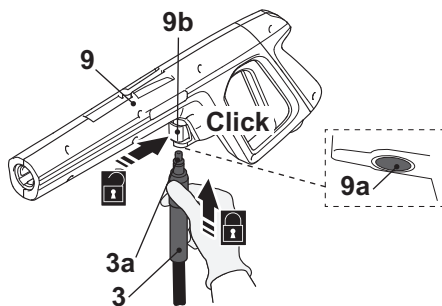

Fig. 2
1. Insert the connector (3a) of the pressure hose (3) into the hose connection port (9a) of the spray gun (9). Ensure it snaps in place (Fig. 2). Press the release button (9b) to unlock if necessary.